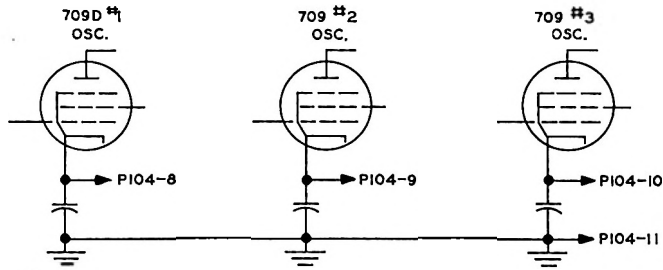

Figure 9. Connections for Automatic Control of Collins 709D FSK Units
2.6.4. FSK Control or Automatic Emission Selection. This transmitter has been provided with a spare switch (S107) ganged to the Autotune and wired to receptacle J105. If external FSK exciters are to be used on channels 8, 9, and 10, these exciters may be connected to plug P104 and S107 used to turn on the proper FSK unit according to the channel selected. Figure 9 shows connections used with the Collins 709S-1 FS Keyer.